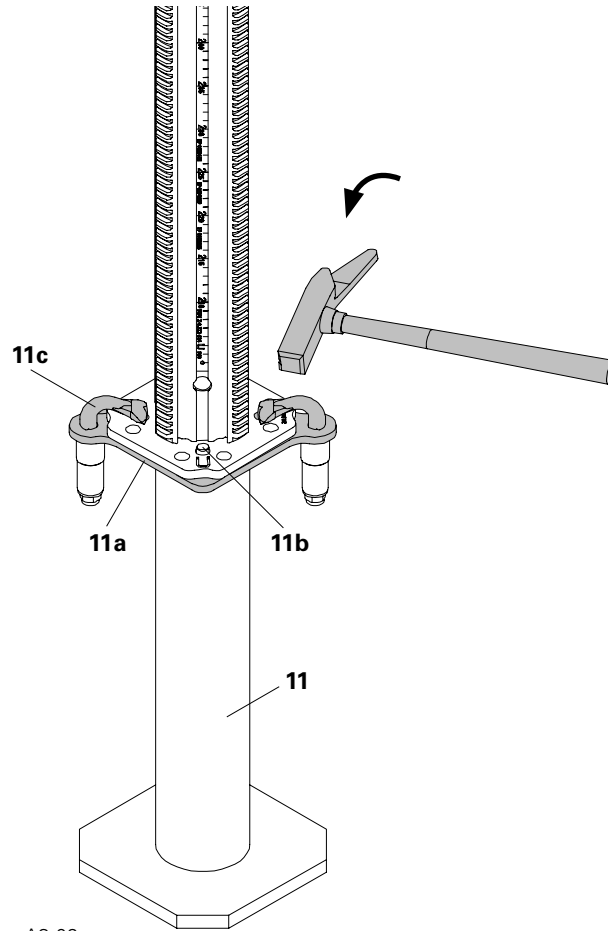

Fig. A3.02
2. Position clamping claws (11c) with the hammer on the end plate of the slab prop. Base MP 50 (11) is now connected to the prop. (Fig. A3.02)